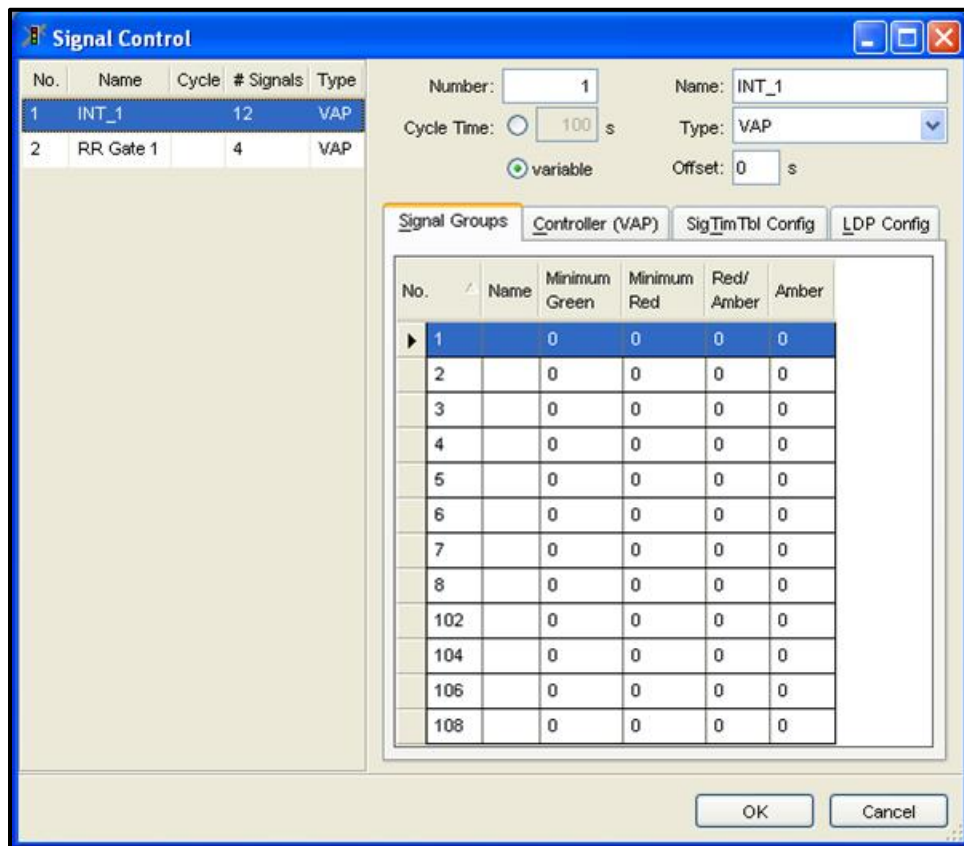

Figure 2.4. Signal Control – Signal Groups Setting Using ATACid
5. Select the Signal Groups tab and create an entry for each group/phase number used by the controller. The input parameters (e.g., values for minimum green, etc.) for the group will not be used by VISSIM. The parameters entered into the traffic controller will be used during the simulation. Figure 2.4 illustrates the parameters for eight vehicle phases and four pedestrian phases.